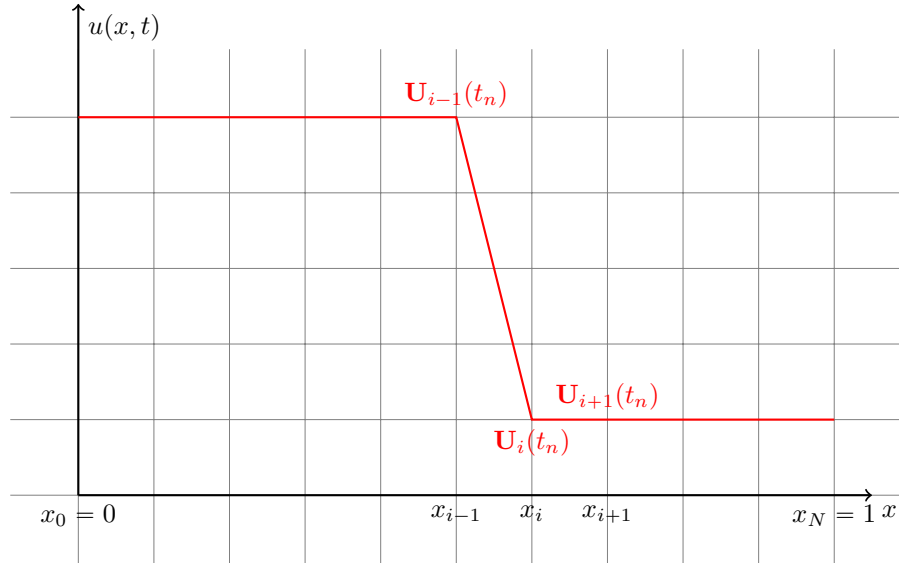

Figure 1: Discretized domain and solution for (3)
for  $x \in [0, 1]$  and  $t \in [0, 0.5]$ , with the initial condition  $u(x, 0) = 1$  and boundary condition  $u(0, t) = 5$ . Using the Method of Lines, (3) is spatially discretized on the grid shown in Figure 1 using FDM to obtain a system of ODEs of the form